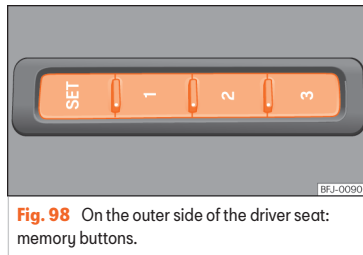

Fig. 98 On the outer side of the driver seat: memory buttons.
- Press **SET** for longer than 1 second >>> **Fig. 98**.